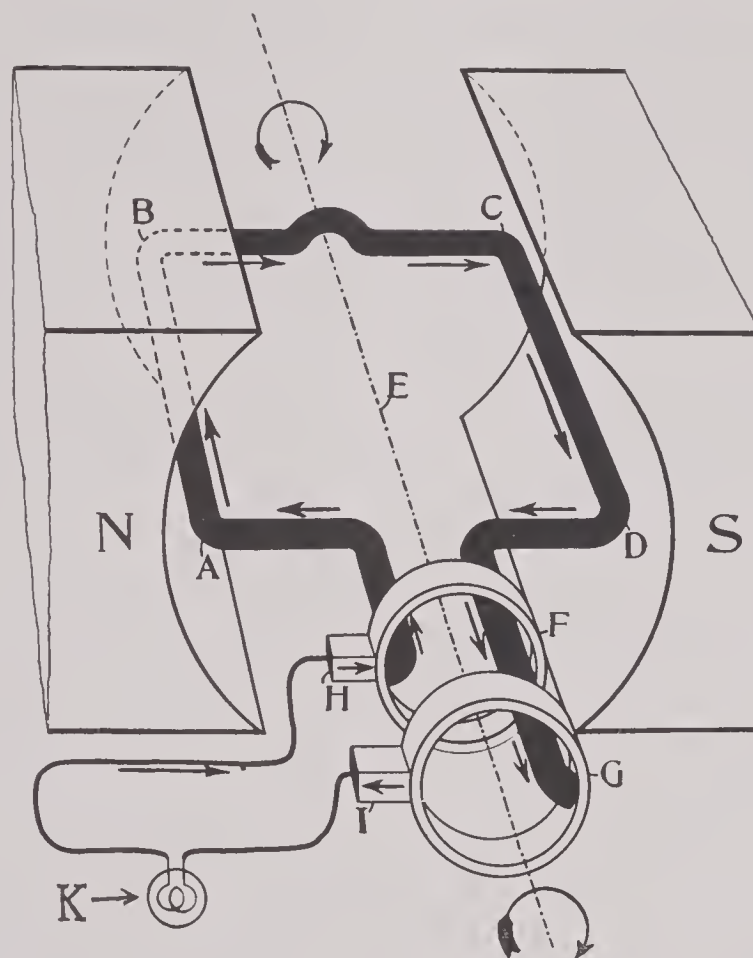

FIG. 274
If a single loop of wire is revolved in the magnetic field, as shown in Fig. 274, an E. M. F. will be induced in the sides of the loop. If the ends of the loop are connected to metal rings (F) and (G) upon which the brushes (H) and (I) ride, the induced E. M. F. will produce current in a circuit such as is formed when a lamp (K) is connected to the brushes. The direction of the induced E. M. F. in the sides of the loop may be determined by Fleming's Right Hand Rule.